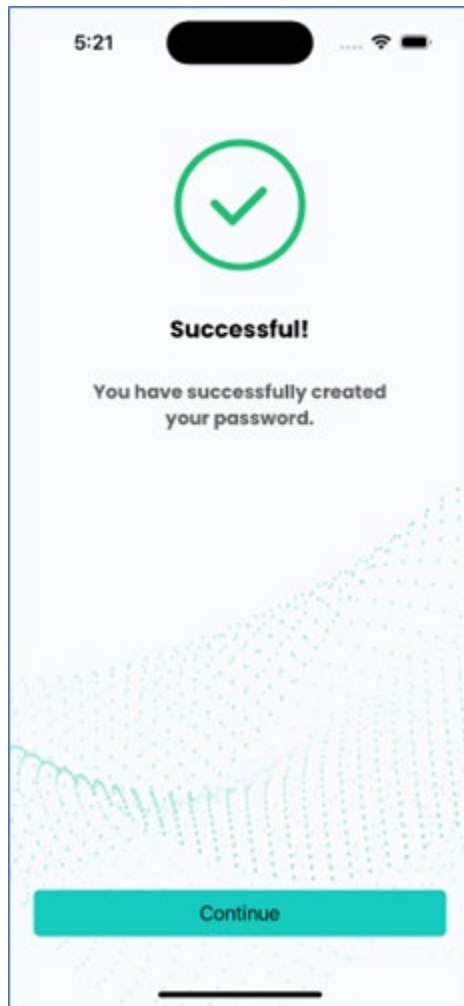
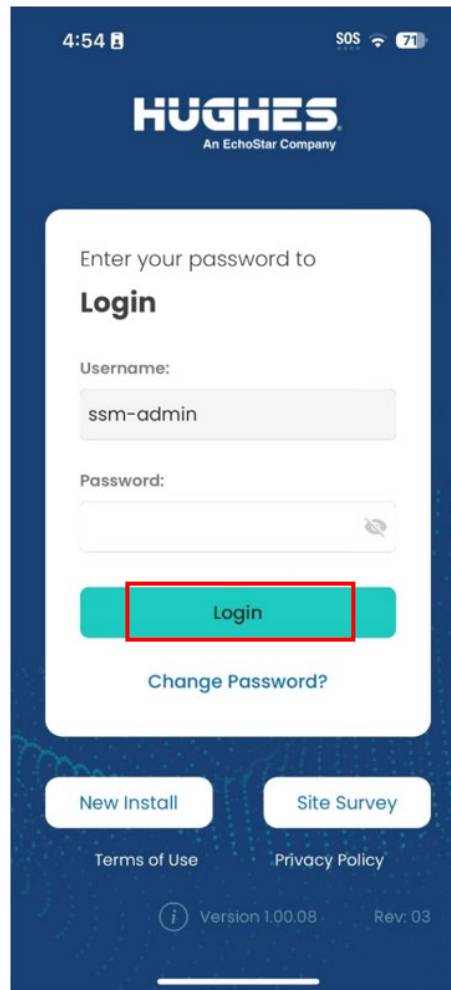

Figure 84: Successful password saved screen
Figure 85: Login for commissioning
5. After the password is saved successfully, click **Continue** (depicted in Figure 84) to move back to the login screen (see Figure 85).
6. On the Login screen (see Figure 85) enter the password and click **Login** to start the commissioning process.